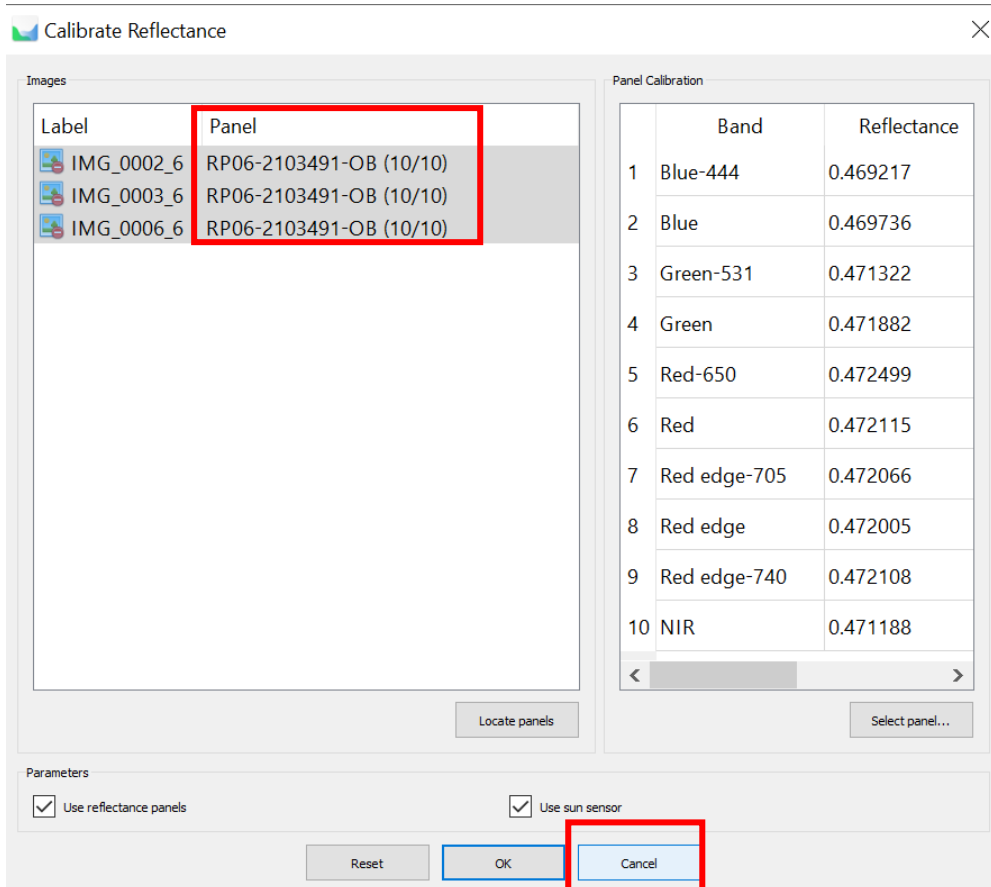

Figure 45: When the panel/images have been located, press Cancel.
- b. Check that all panel images were located for all bands. For example, in Figure 45 'RP06... (10/10)' for 10-band Dual sensor indicates that the calibrated panel was located in all 10 bands of the image (or (5/5) for RedEdge-MX images). If not all bands were located, the display will indicate how many bands the panels were located in (x/10). The mask will have to be manually selected (following steps).